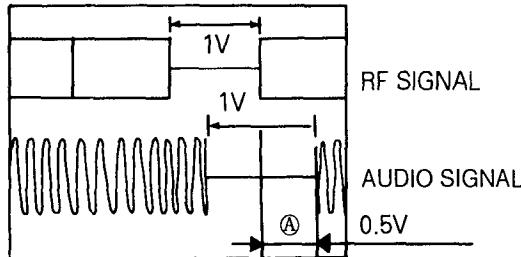

Fig. C-9-1
- 1) Confirm that the period Ⓐ of Fig. C-9-1 is within $\pm 0.5V$.